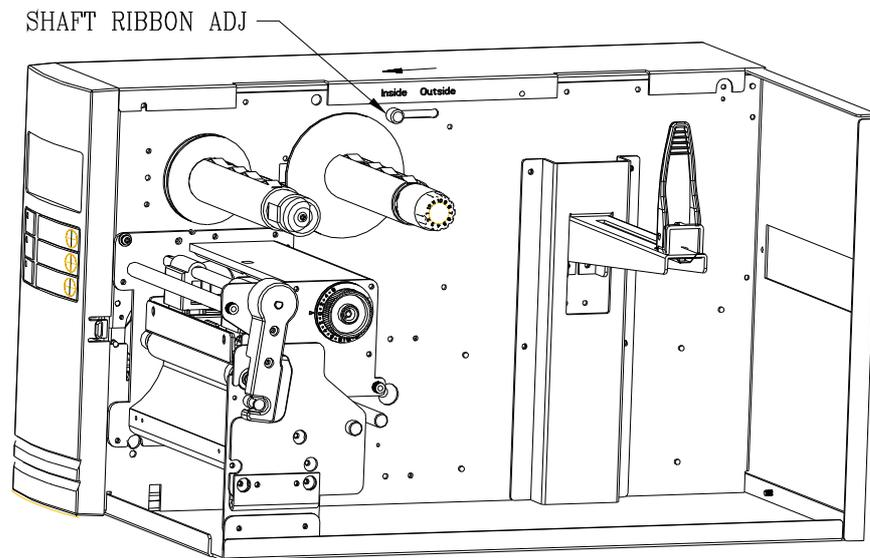

Figure 7.9
1. Pull up and hold the shaft as shown in Figure 7.9.